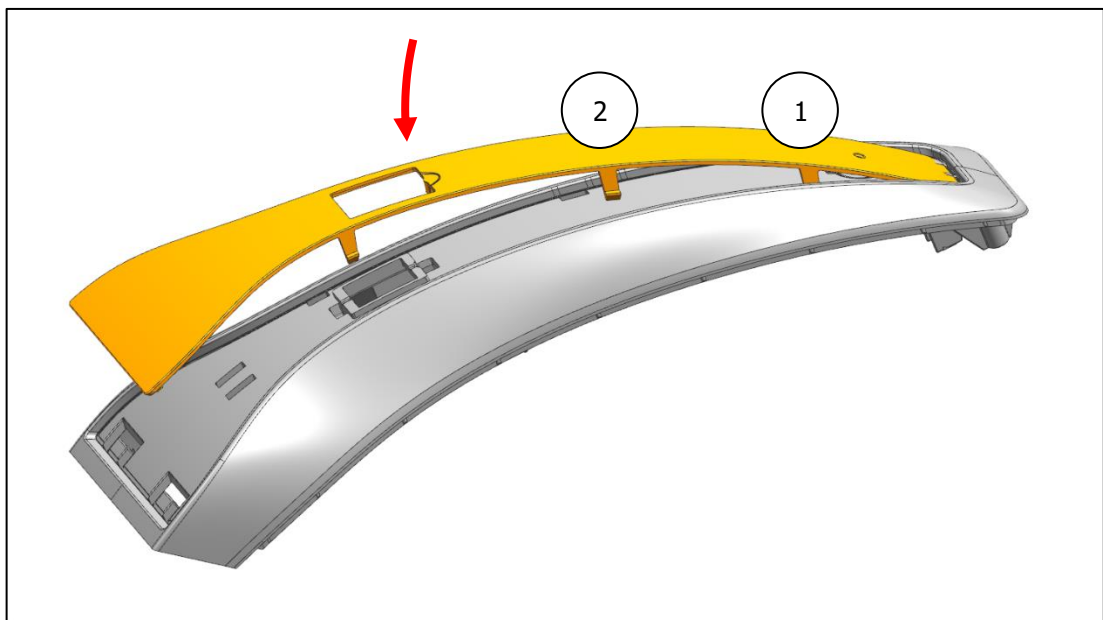

Fig. 22
- b) Tilt the cover downwards, until snap-fit hooks 1 and 2 snap into place (Fig. 22).